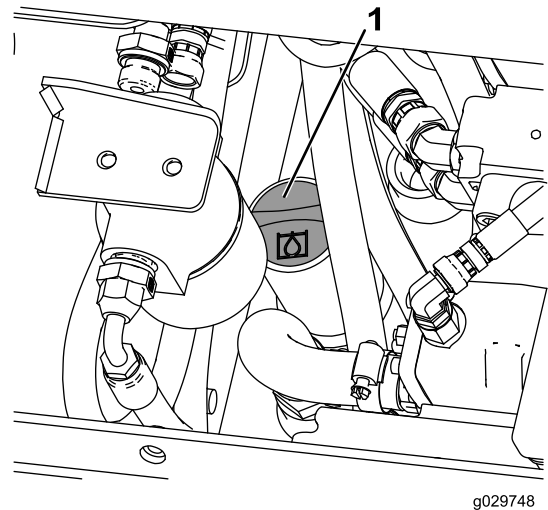

Figure 27
5. Clean the area around the filler neck of the hydraulic tank (Figure 27).